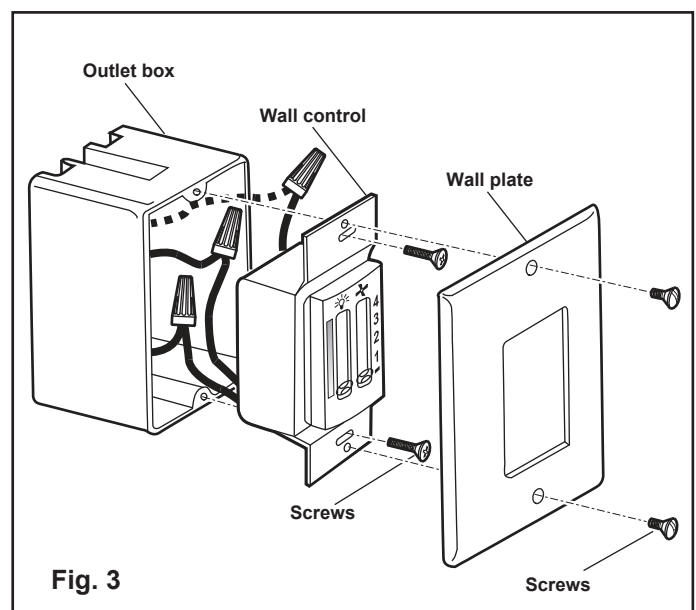

Fig. 3
3. Attach the control to the outlet (wall) box and secure with 2 outlet box screws (Figure 3).
4. Attach the wall plate over the wall control and secure with the two screws provided (Figure 3).